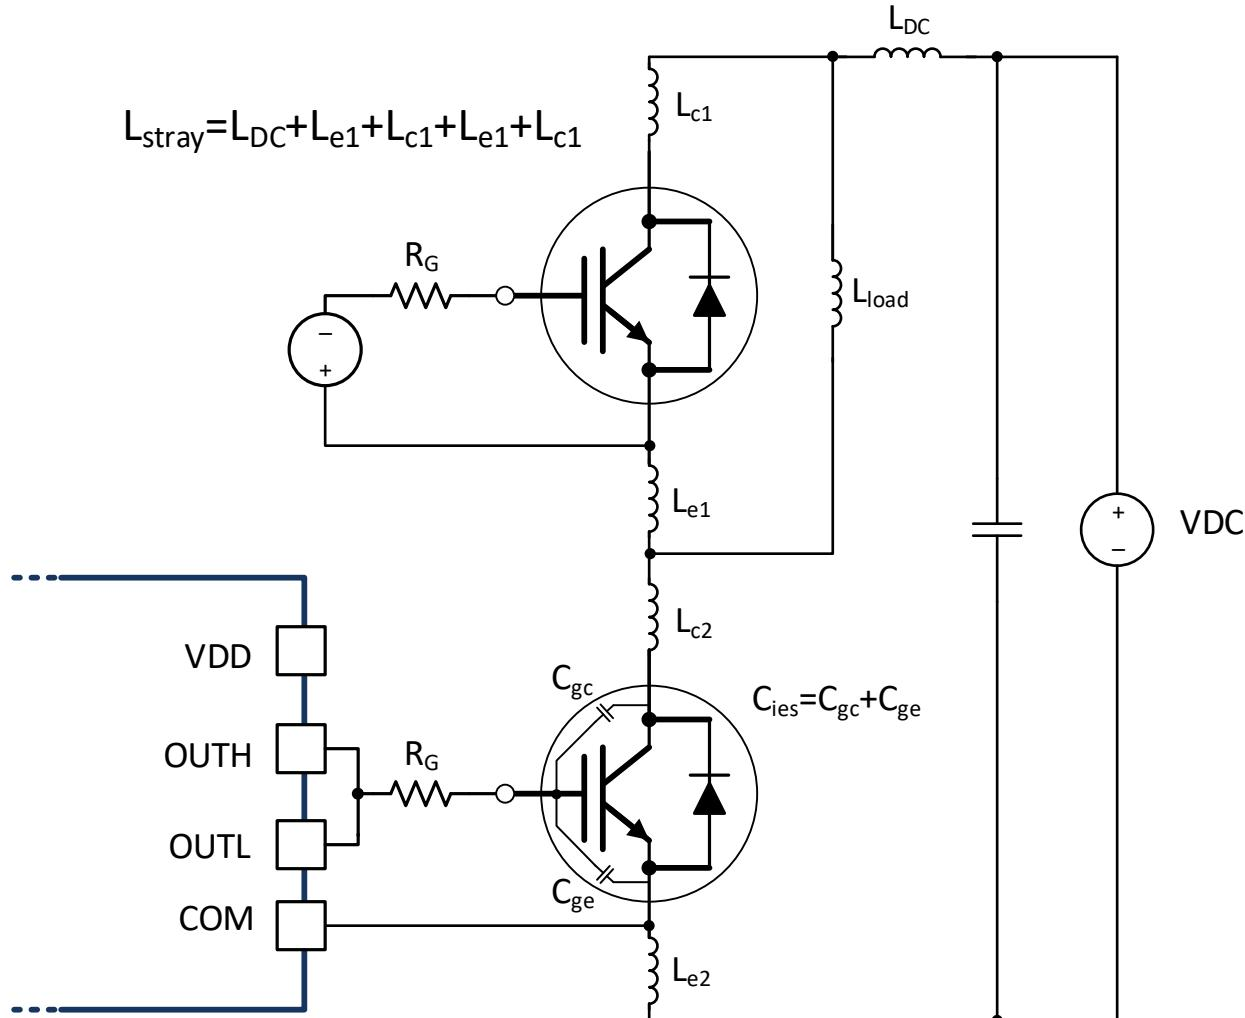

Figure 9-6. Stray Parasitic Inductance of IGBTs in a Half-Bridge Configuration
- L_{stray} is the stray inductance in power switching loop, as shown in Figure 9-6.